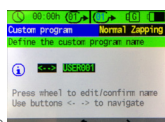
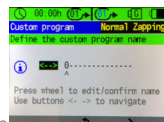

Fig. 17b
Fig. 17c
1. **PROGRAM NAME:** by default the name of your custom program will start with USER001 and continue in succession. If you do not want to change the name continue with . To change the Name, press the turnwheel to activate the edit mode (Fig. 17b). Now press the right button on the VariBase to start editing the first character (Fig. 17c). By turning the wheel you can change the character using letters and numbers. Once you have chosen the first character press the right button again to move to the next character on the right. You can use the buttons on the VariBase to move right and left and the wheel to change the characters. Continue till you have your desired Name for the program. To confirm your Name change press the turnwheel. Proceed to defining the first step of the program with .